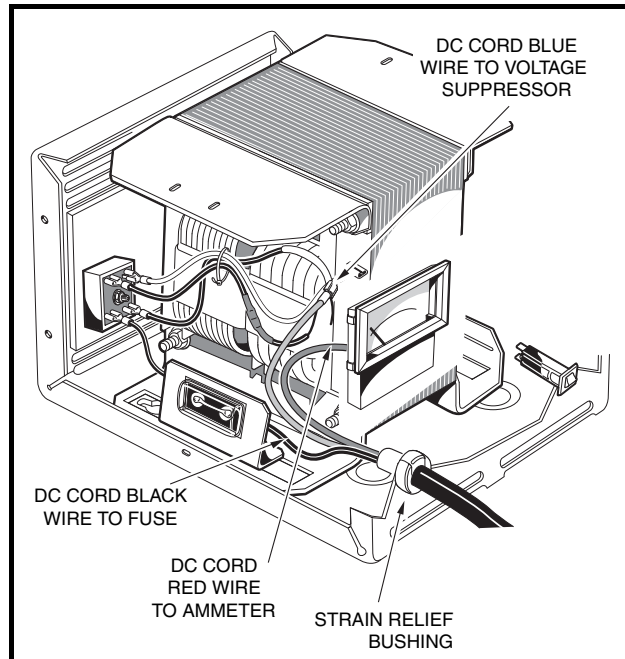

Figure 5-18 DC Cord
3. Disconnect the DC cord black wire from the fuse and position it so it does not touch any metal part of the charger (**Figure 5-18, Page 5-24**).
3. To check the continuity of the DC cord, disconnect the black wire of the DC cord from the fuse (**Figure 5-18, Page 5-24**).
3. Remove the DC cord black wire from the fuse by loosening the nut on the fuse (**Figure 5-18, Page 5-24**).
2. Attach the red wire of the new DC cord to the ammeter (**Figure 5-18, Page 5-24**).